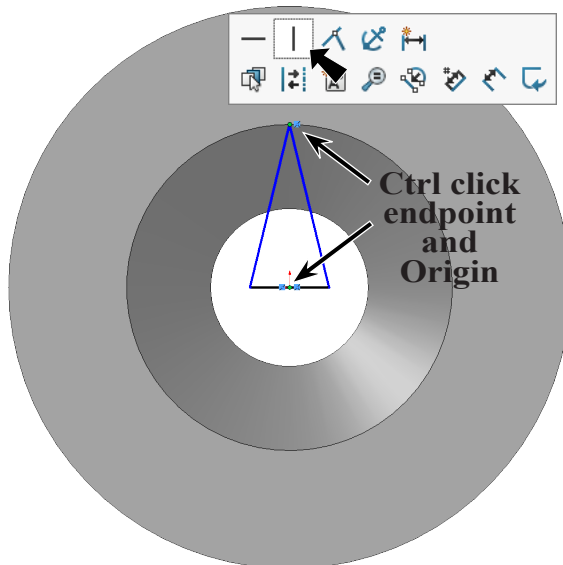

Fig. 10
Step 6. **Ctrl click top endpoint of line and Origin**  to select both. Release Ctrl key and click **Make Vertical**  on the context toolbar, **Fig. 10**.
Step 7. Click **Smart Dimension**  (S) on the Sketch toolbar.